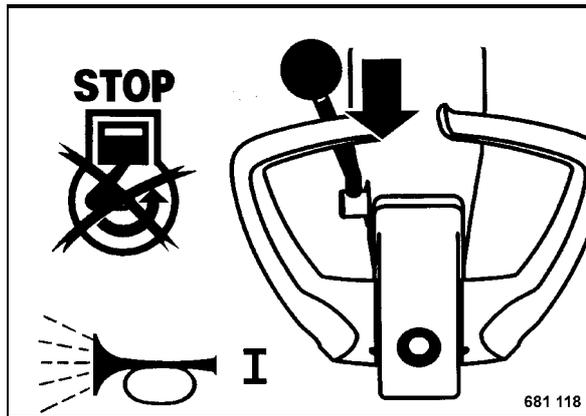

Fig. 26
- Set the throttle lever (Fig. 26) to position "STOP".